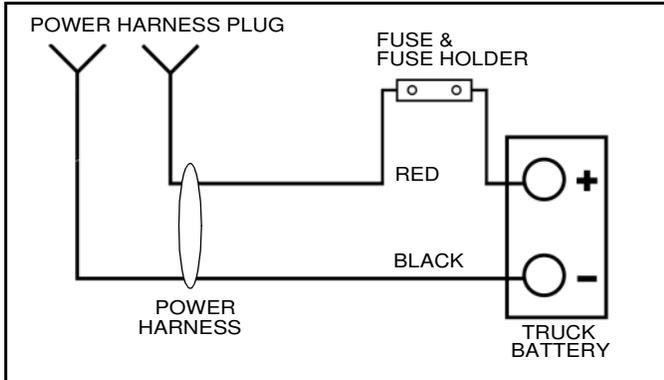

Figure 1-7
4. Mount the fuse holder near the battery using (2) #10 x 1" self-tapping screws.
5. Take the cover off of the fuse holder. Place the end of the 6 in. long power wire with the small ring terminal on one stud. (See Figure 1-7).